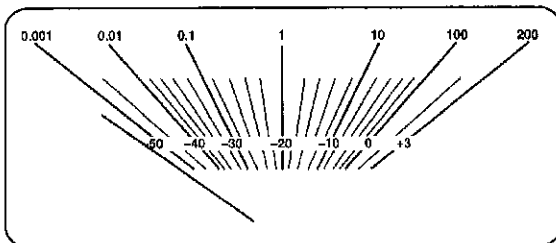

Fig.3
3. Turn the power ON, make sure that the power meter is mechanically adjusted to 0 point. (Shown in Fig.3)